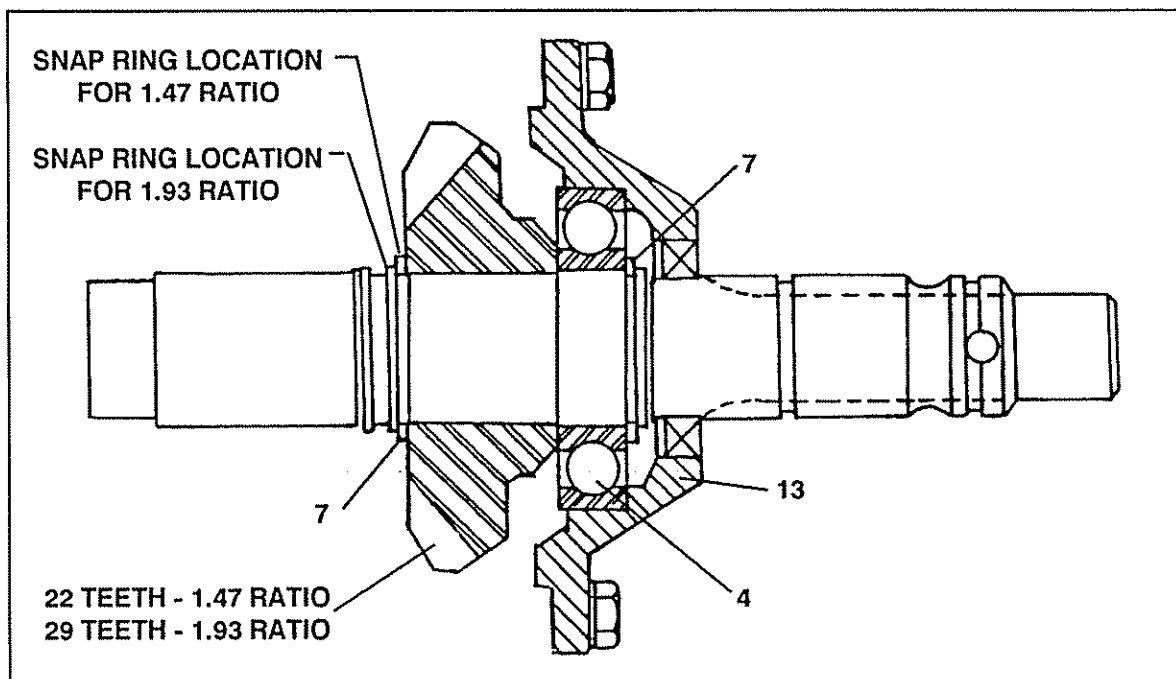

FIGURE 23
1. Input shaft assembly Fig. 23
## INPUT SHAFT (FIGURE 23)